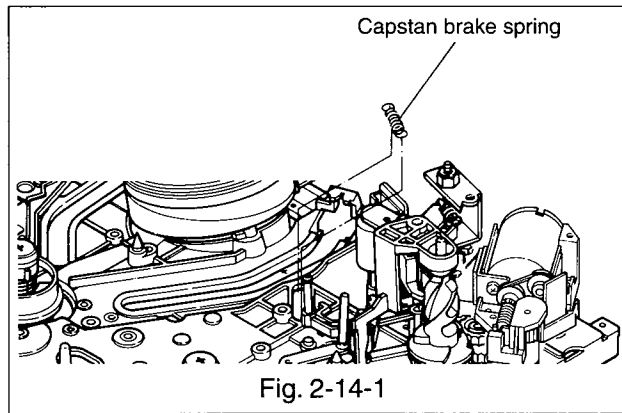

Fig. 2-14-1
2-14-1 Removal(Refer to Fig. 2-14-1, 2-14-2.)
- Detach the capstan brake spring from the capstan brake and the loading gear arm.(Refer to Fig. 2-14-1.)
- Unsolder the terminals of the FE head.(Refer to Fig. 2-14-1.)
2-14-2 Installation(Refer to Fig. 2-14-1~2-14-3.)
- Make certain that the mode switch is set to the eject position.(Refer to section 2-9.) Fasten the PCB DECK with five screws and solder the FE head terminals.(Refer to Fig. 2-14-1.)
- Fasten the capstan brake spring to the capstan brake and the loading gear arm from the top side of the deck.(Refer to Fig. 2-14-1.)